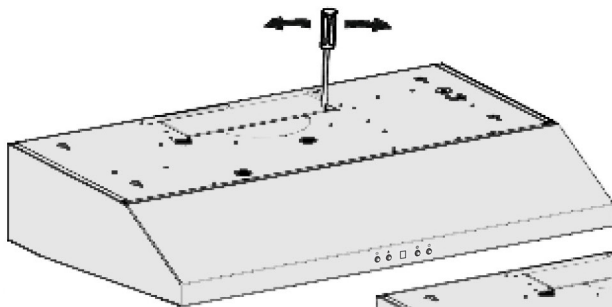

Figure 4
- If you require 6 in. (15.3 cm) round venting, keep the unit as provided in the packaging and install the round damper provided; Below Figures 4, 5 and 6 show how to punch the 6 in. (15.3 cm) round venting.